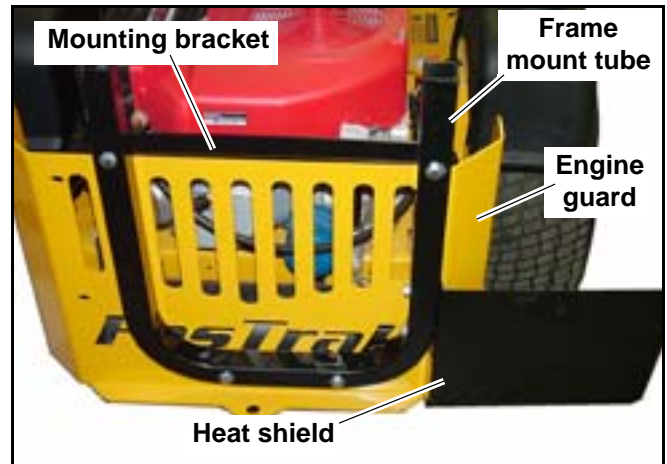

Figure 3-7
1. Attach heat shield to the frame mount tube. Fig. 3-7
2. Attach the frame mount tube to the rear engine guard. Fig. 3-7
3. Attach the mounting bracket to the frame mount tube. Fig. 3-7